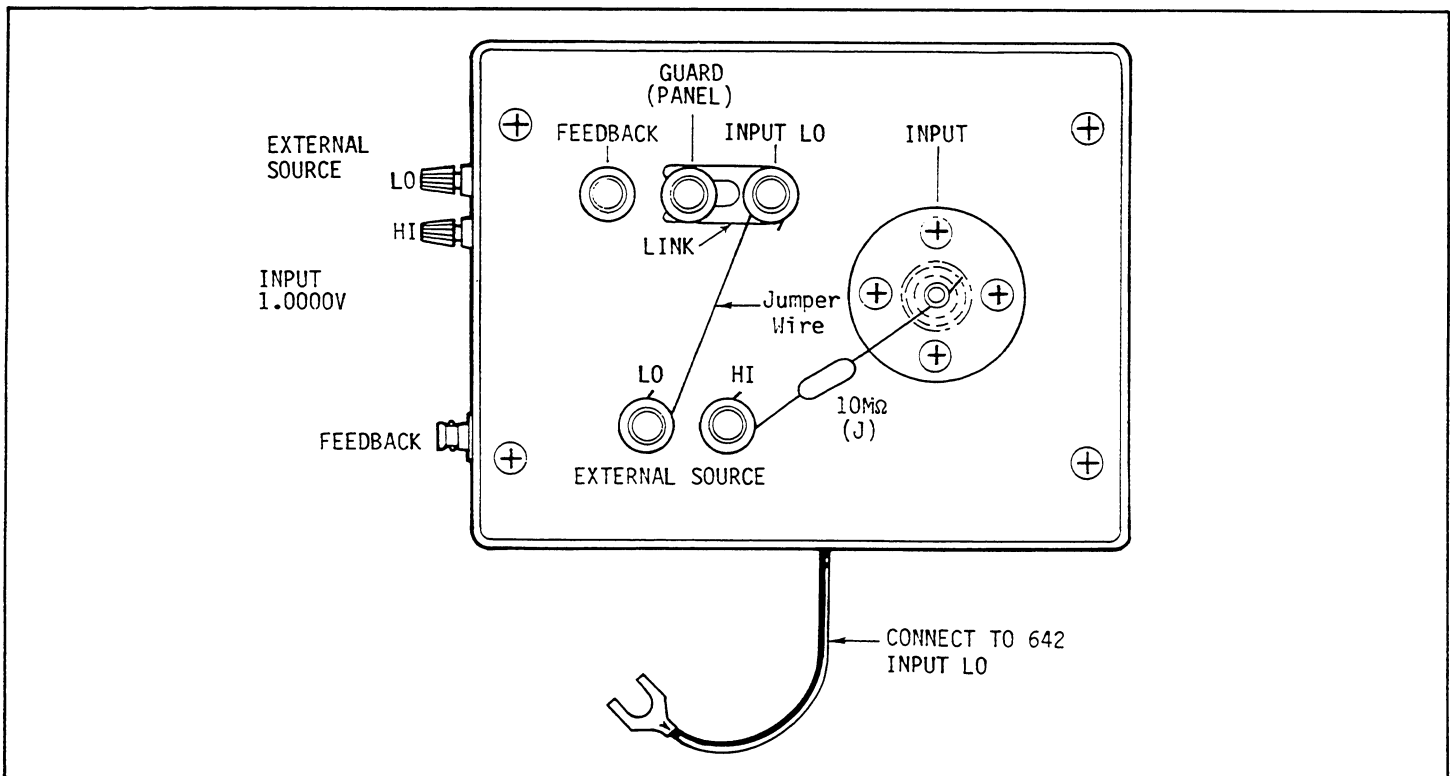

FIGURE 6-1.  $10^{-7}$ A Current Source Using Model 6426 Sapphire Test Box
a. Mount the Model 6426 Sapphire Test Box (Item A Table 6-1) on to the 642 remote head. Connect the  $10\text{M}\Omega$ , 0.1% resistor (Item J) from the EXTERNAL SOURCE HI binding post to the INPUT binding post, and connect a wire from the EXTERNAL SOURCE LO binding post to the INPUT LO binding post. Connect the black wire that is attached to the test box, to the INPUT LO binding post on the remote head. (See Figure 6-1.) Close the lid of the test box.
b. Apply +1.0000V to the EXTERNAL SOURCE input of the Sapphire Test Box using the DC Calibrator (E).